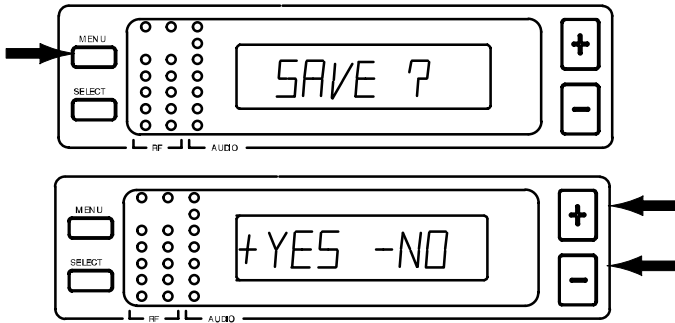

FIGURE 28
5. Once you have reached the desired squelch level, press the MENU button. "SAVE?" appear, followed by "+ YES - NO", as shown in Figure 28. Press the - button to make more changes, or press + to save the new squelch setting and return to the Group/Channel/TV display.